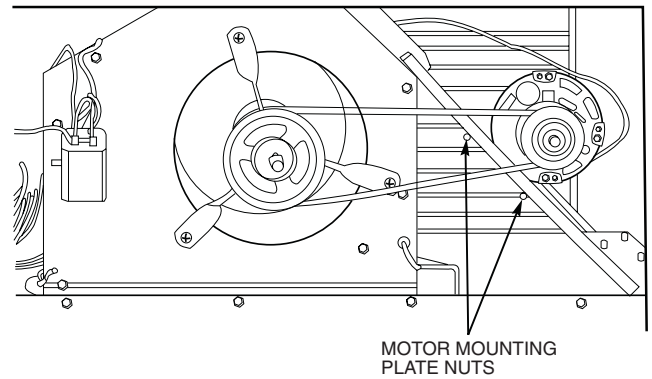

Fig. 37 — Belt-Drive Motor Mounting
2. Loosen belt by loosening fan motor mounting nuts. See Fig. 37.